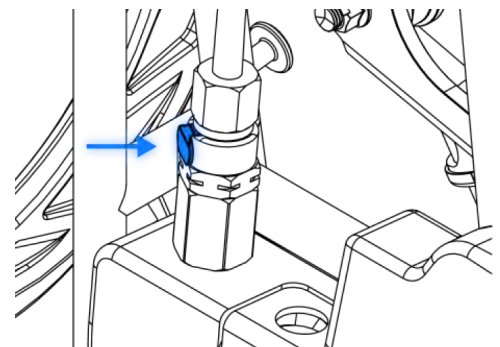

FIGURE 1.2
3. Disconnect fuel pipe at the dry break connector by pushing the tab shown in Figure 1.2.